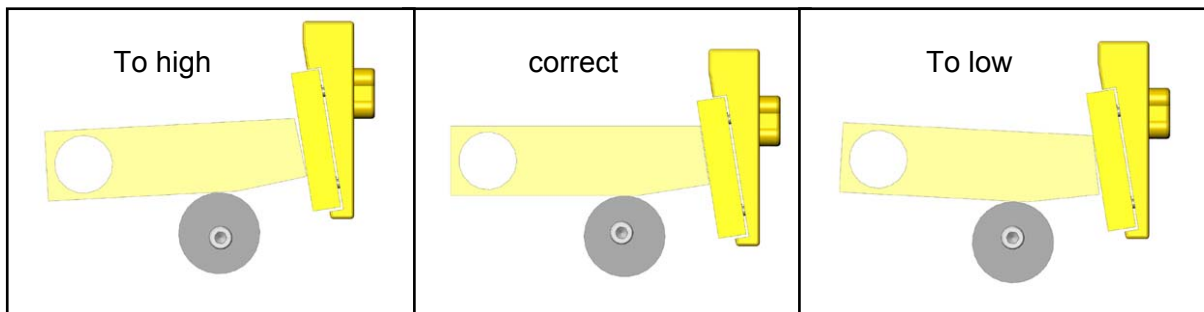

Fig. 5:
- Check movability and position (Fig. 5) of the latch (1.27). If the position isn't correct:
- Adjust roller (1.28) with bolt (1.43), so the shackle fits correctly (fig. 5).